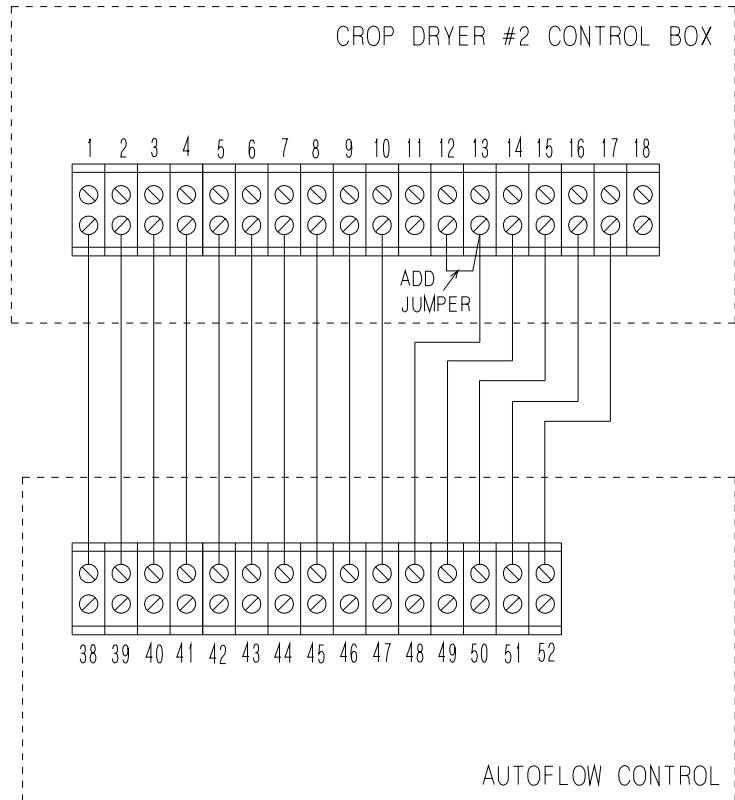

Figure 9.
4. Make wire connections as shown in Figure 9.
7. Add jumper between terminals 12 & 13 as shown in Figure 9.